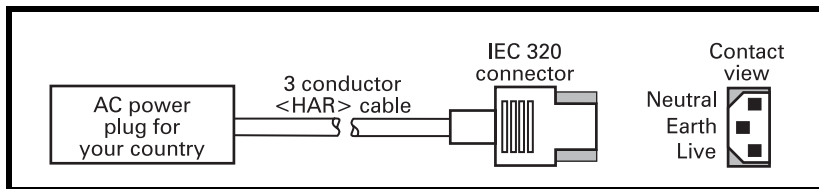

Figure 37. Power Cord
- The chassis ground (earth) **must** be connected to ensure safety and reduce electromagnetic interference. The ground connection is handled by the third wire (earth) in the power cord. See Figure 37.